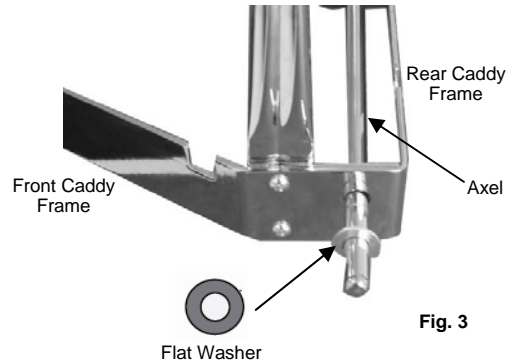

Fig. 3
9. On the outside side of the axel, place a washer in the groove nearest to the frame. (Fig. 3)